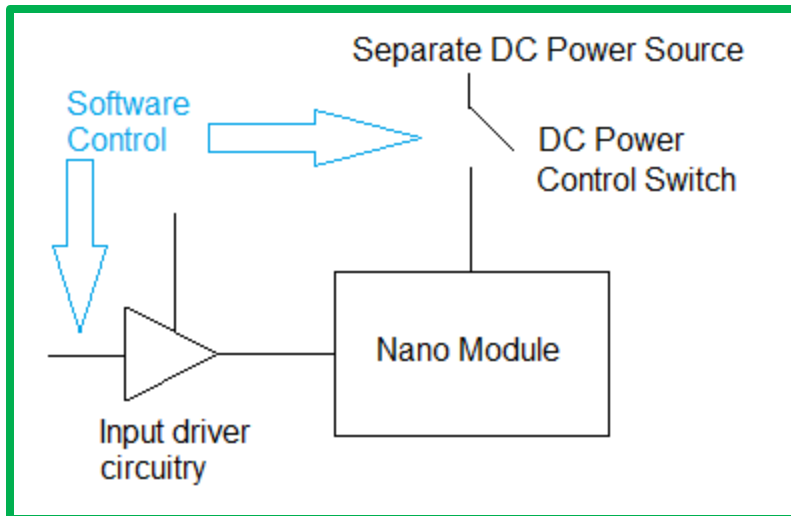
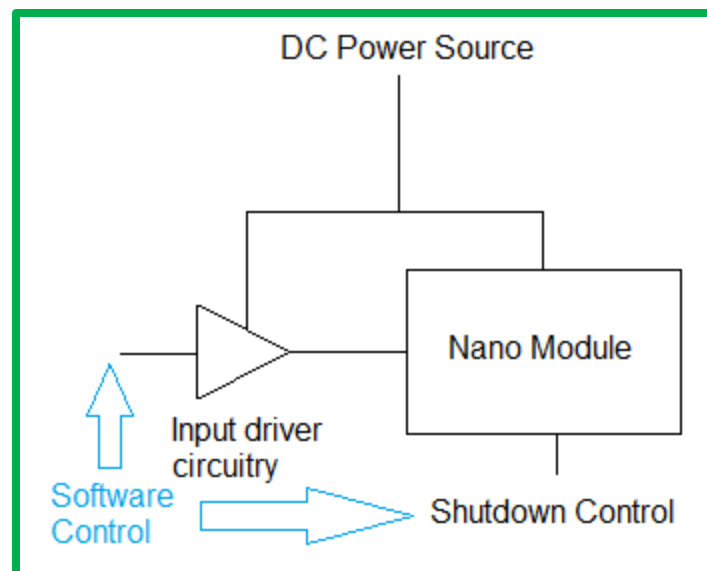

Figure 4
Figure 5
- (1) Ensure, though software, that all input lines are low before shutting off the Nano module and remain low until power is applied to the Nano to turn it on again. See Figure 4 and Figure 5.